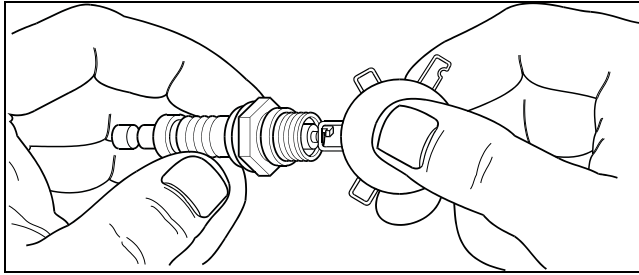

Figure 4-4. Spark Plug Gap
4. Set the new spark plug's gap to 0.028-0.031 in. (0.70-0.80 mm). See Figure 4-4.